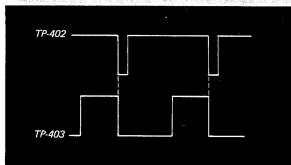

Fig. 7-9.
2. Connect the dual-trace scope to TP-402 and TP-403 on the SV4 Board. Adjust R428 so that the leading edge of the waveform at TP-402 corresponds to the trailing edge of the waveform at TP-403, as shown in Fig. 7-9.